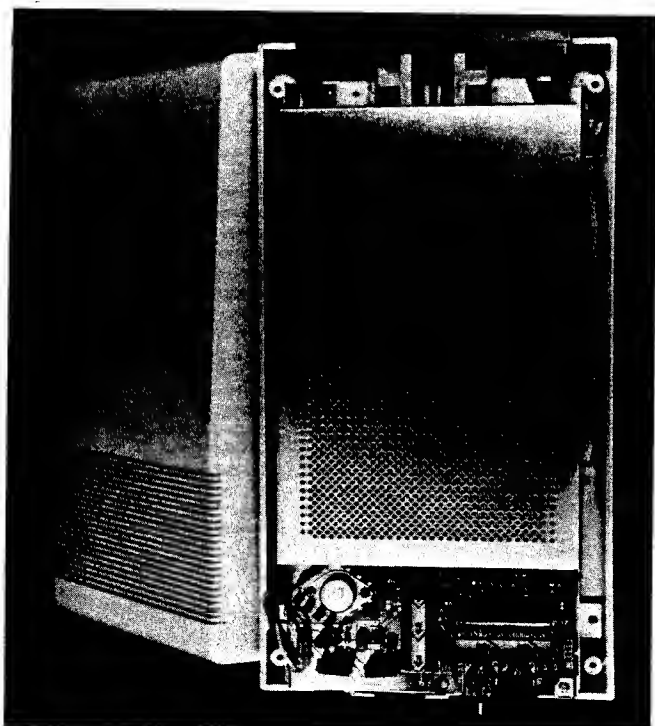

Fig. 5-12. Gently lift the drive case cover off the drive mechanism.
7. Holding both halves of the drive case together, turn the drive right-side up. Gently lift the drive case top off the main drive mechanism case and set aside as shown in Fig. 5-12.